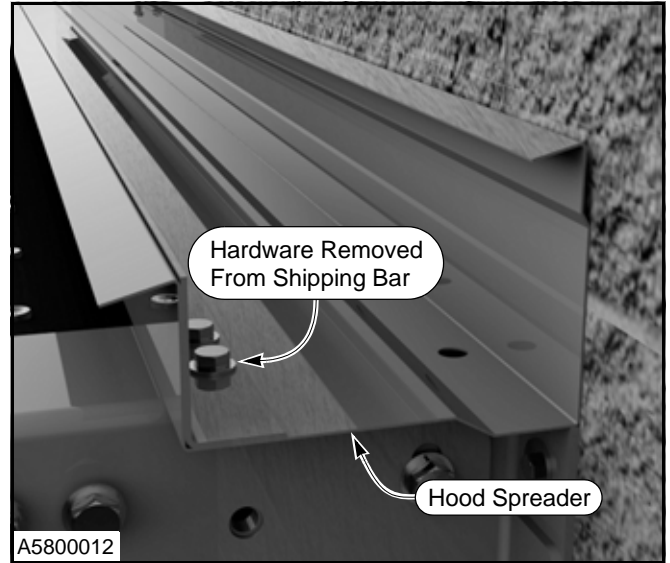

Figure 36
2. Install the hood spreader with the hardware that was removed from the shipping bar. (See Figure 36.)